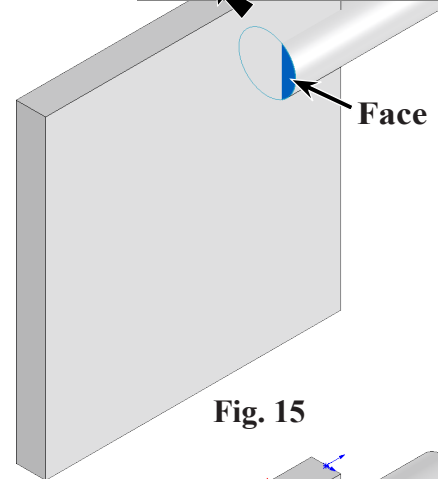

Fig. 15
Step 1. Rotate view to bottom face of shaft, **Fig. 15**. To rotate view, **Shift click the X axis of the Reference Triad**
Step 2. Click the **bottom face of shaft** and click **Sketch**  on the context toolbar, **Fig. 15**.